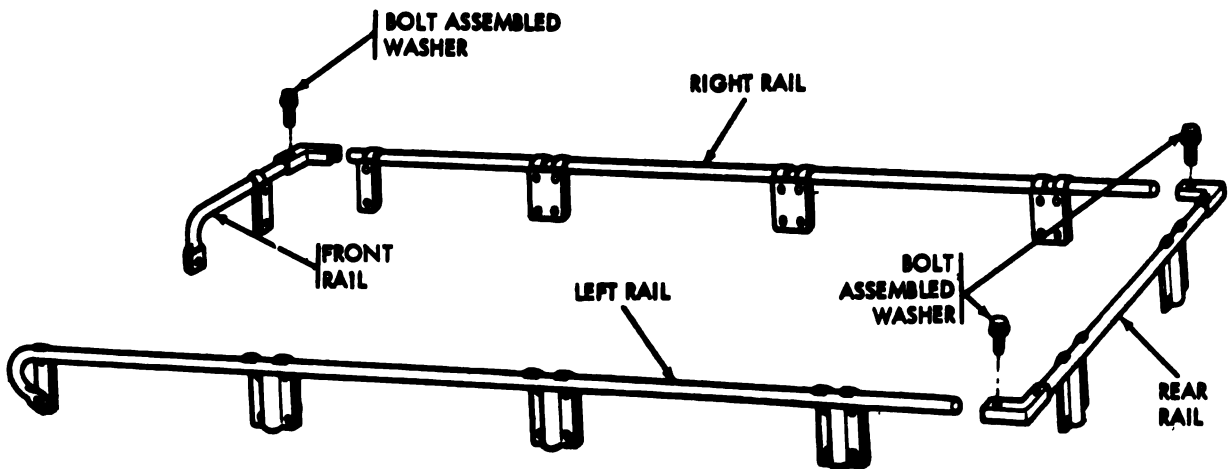

Figure 2-103. Handrail—exploded view.
**2-86. Handrail (Figure 2-103)**
- (1) Remove the three hex-head screws with assembled washers holding the front, right, rear, and left handrail sections together.
- (2) Remove the hex-head screws with assembled washers securing the sections to the edge of platform, and remove from vehicle as required.
*b. Installation.* Using such new or repaired sections as necessary, reverse removal instructions in paragraph 2-86a(1) and (2), and install sections as required.